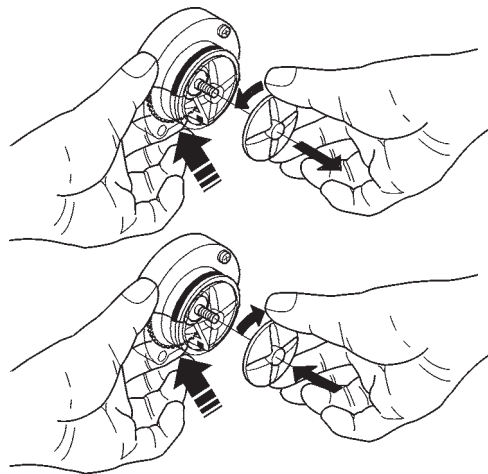

Fig. 11
- in order to remove the impellers, block the disk fitted on the mixer shaft with a finger (see Fig. 11);